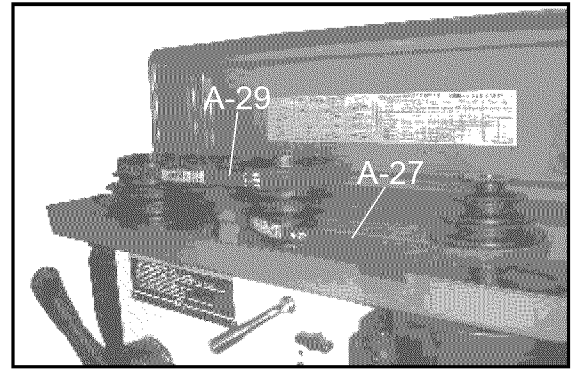

Figure 5
4. Install the idler pulley and drive belts. Simply slide the pivot post of the idler pulley into the corresponding hole in the drill press head. The small drive belt (A-27) is mounted to the motor pulley and the large drive belt (A-29) is mounted to the spindle pulley (Figure 5).